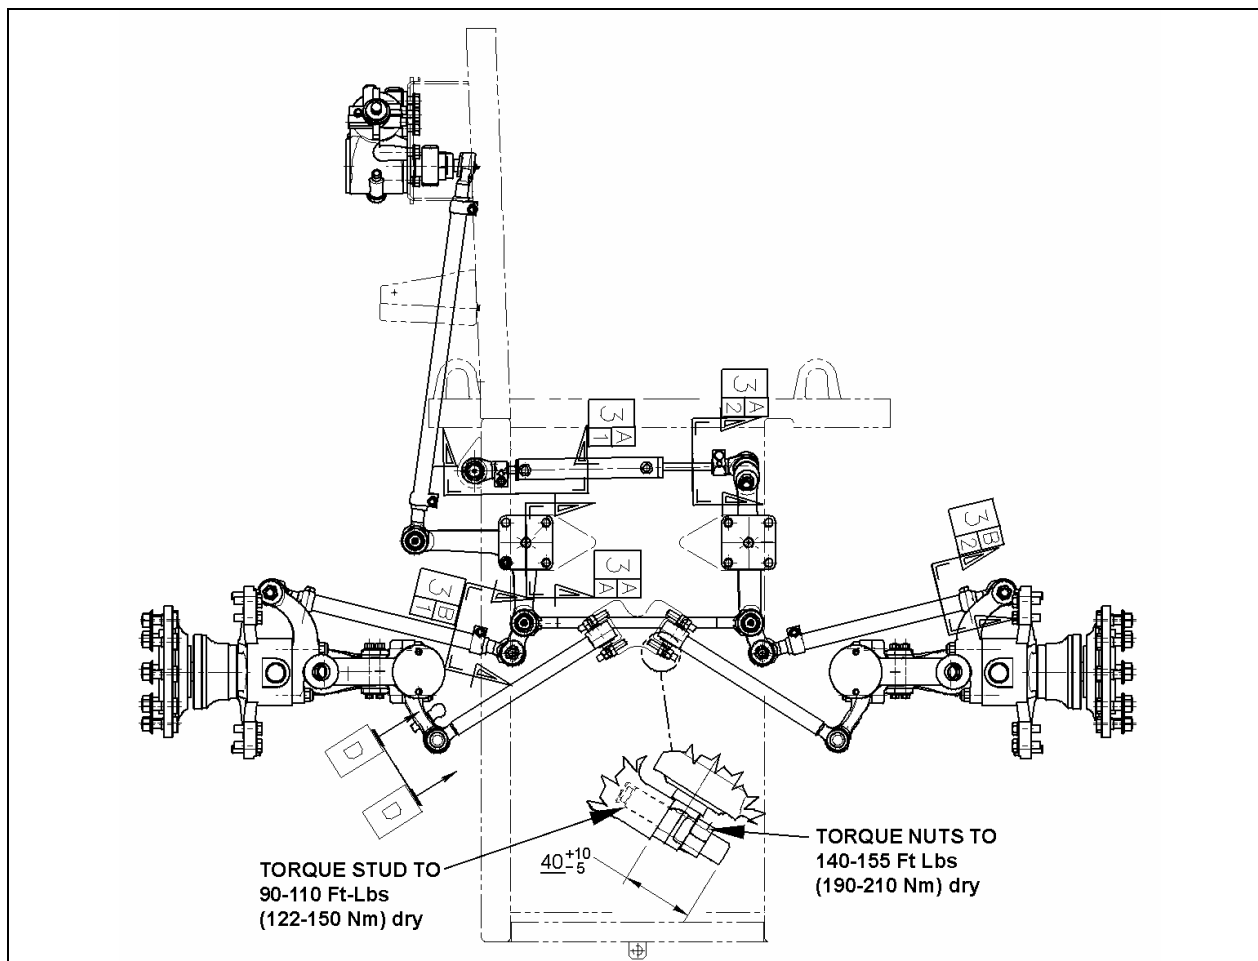

FIGURE 2: LOCATION OF CLAMPS
| FIGURE 2: LOCATION OF CLAMPS | 5 |
2. For a full left and right turn, check clamps' position and for interfering parts. Refer to figures 2 to 7 for location and positioning of clamps. If readjustment is required, make the proper adjustment.